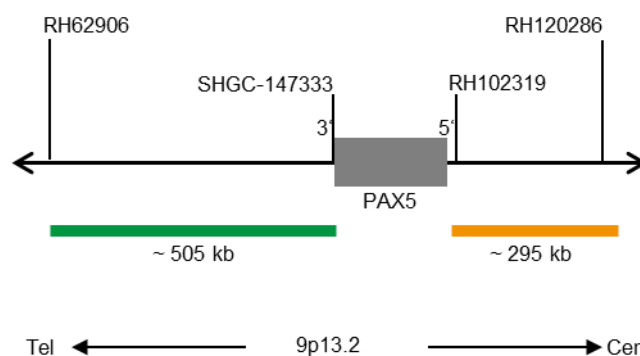

Fig. 1: SPEC PAX5 Probe map (not to scale)
- ZyGreen (excitation 503 nm/emission 528 nm) labeled polynucleotides (~10 ng/μl), which target sequences mapping in 9p13.2\* (chr9:36,331,787-36,837,502) distal to the PAX5 breakpoint region (see Fig. 1).
- ZyOrange (excitation 547 nm/emission 572 nm) labeled polynucleotides (~4.5 ng/μl), which target sequences mapping in 9p13.2\* (chr9:37,043,219-37,336,413) proximal to the PAX5 breakpoint region (see Fig. 1).